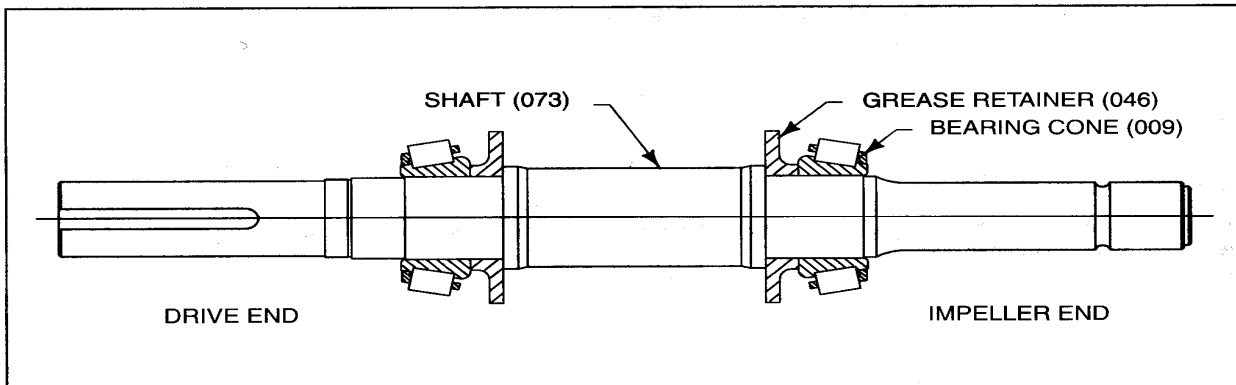

Figure 2-1 • Fitting Grease Retainers and Bearing Cones
This section contains information for pump designs designated as indicated above and as shown in *Figure 2-1*. The pump bearing configuration consists of opposing tapered roller bearings.
**BEARING ASSEMBLY – FITTING GREASE RETAINERS AND BEARING CONES (Figure 2-1)**
2. Slide on one GREASE RETAINER (046) with the flange against the shaft shoulder.
3. Fit the cone of BEARING (009) to shaft with large diameter against retainer. It is advisable to preheat bearing cone. (Preheat should not exceed 210°F.) CNSME suggests using an induction heater or oven to heat the bearings.
2. Work this grease by hand into the bearing on the shaft to fill space between cone, rollers, and roller cage. Spread remainder of grease between bearing and grease retainer shown in Figure 2-1.